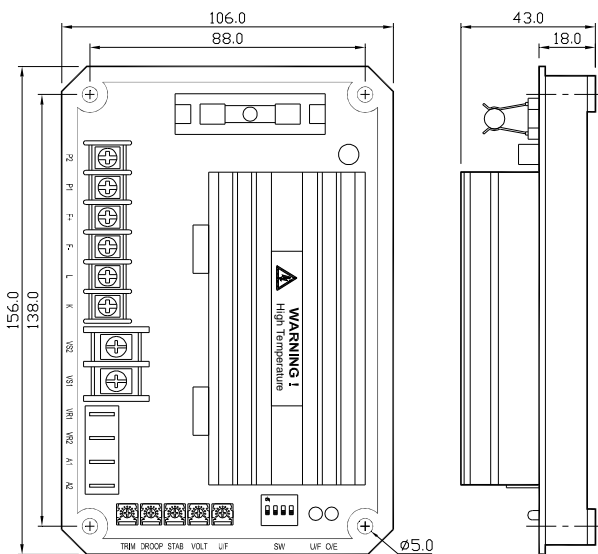

Figure 1 Outline Drawing
1. AVR can be mounted directly on the engine, genset, switchgear, control panel, or any position that will not affect operation. For dimensional reference, please see Figure 1.